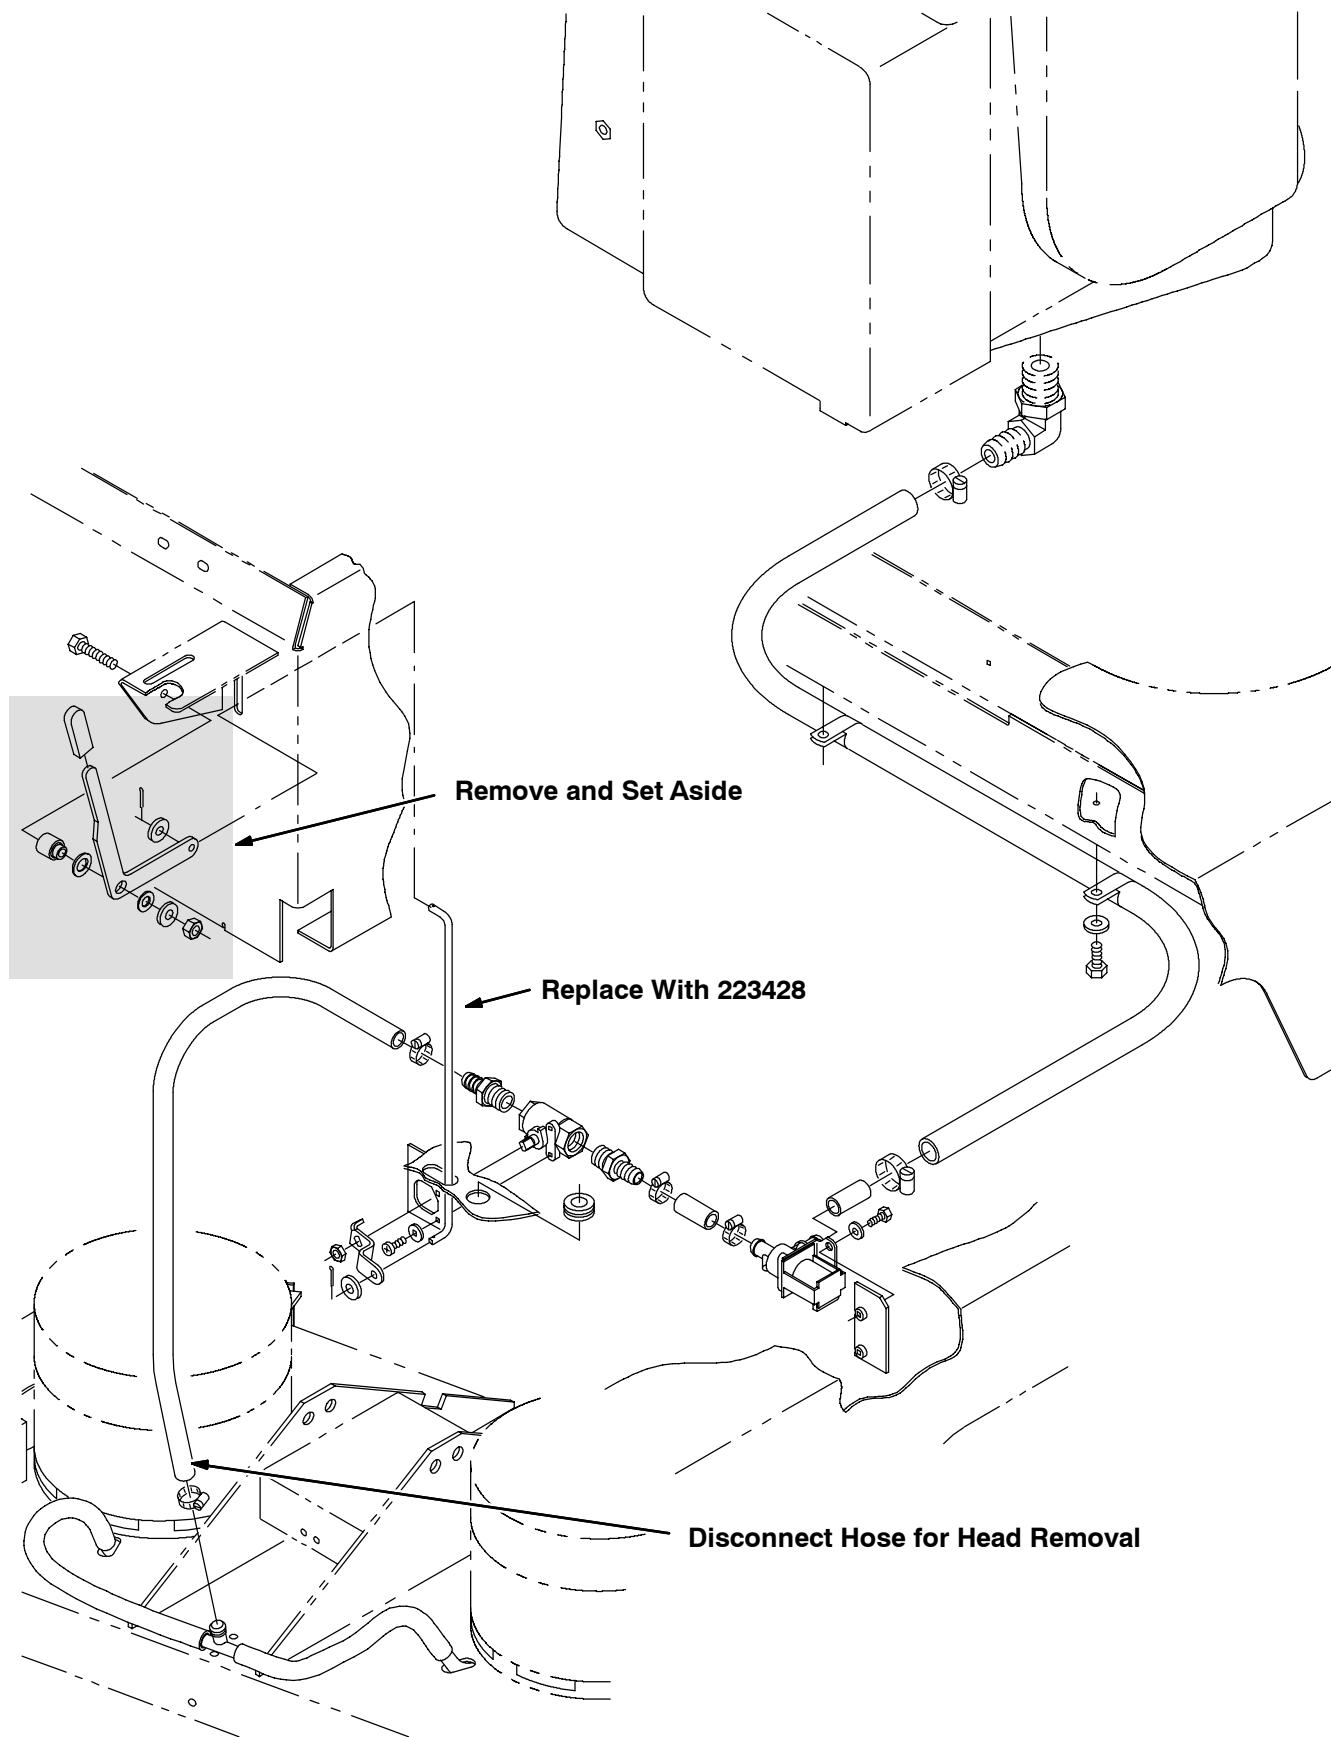
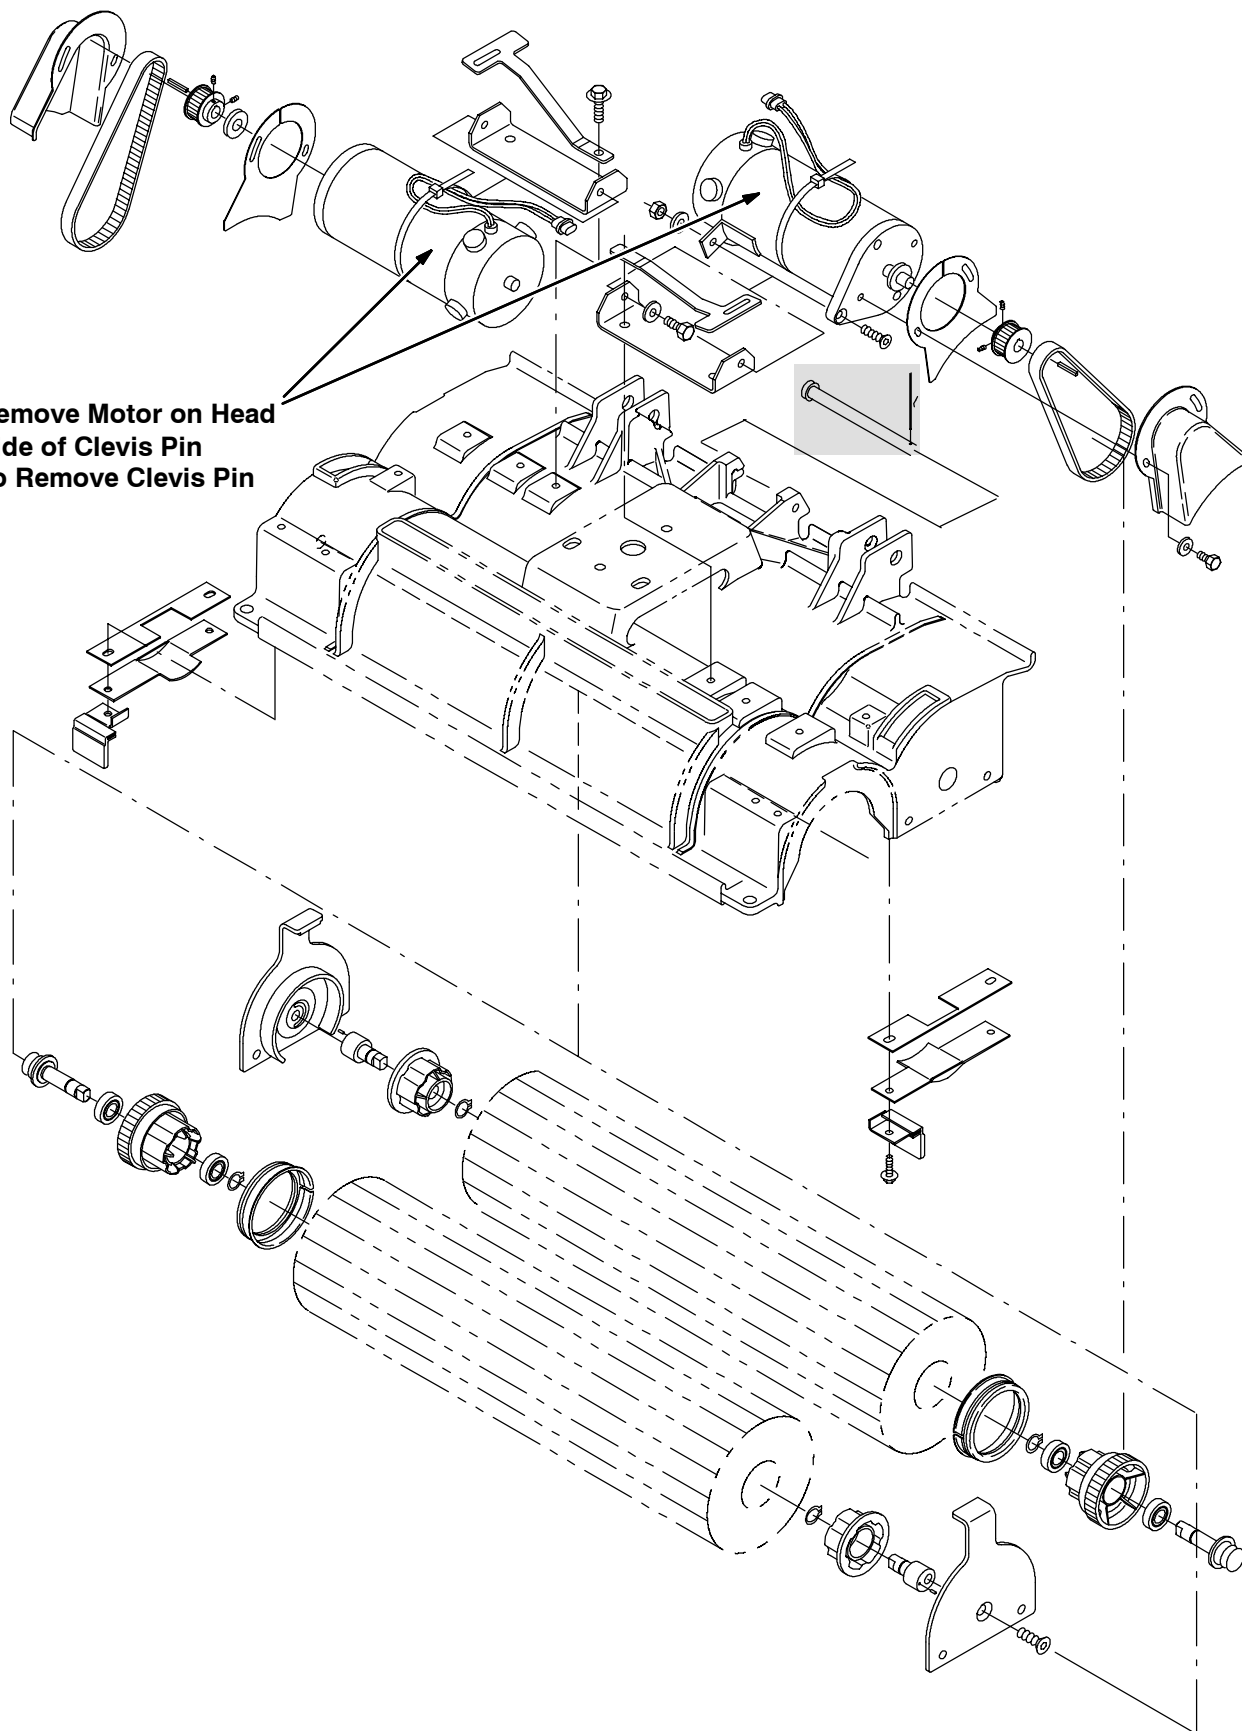
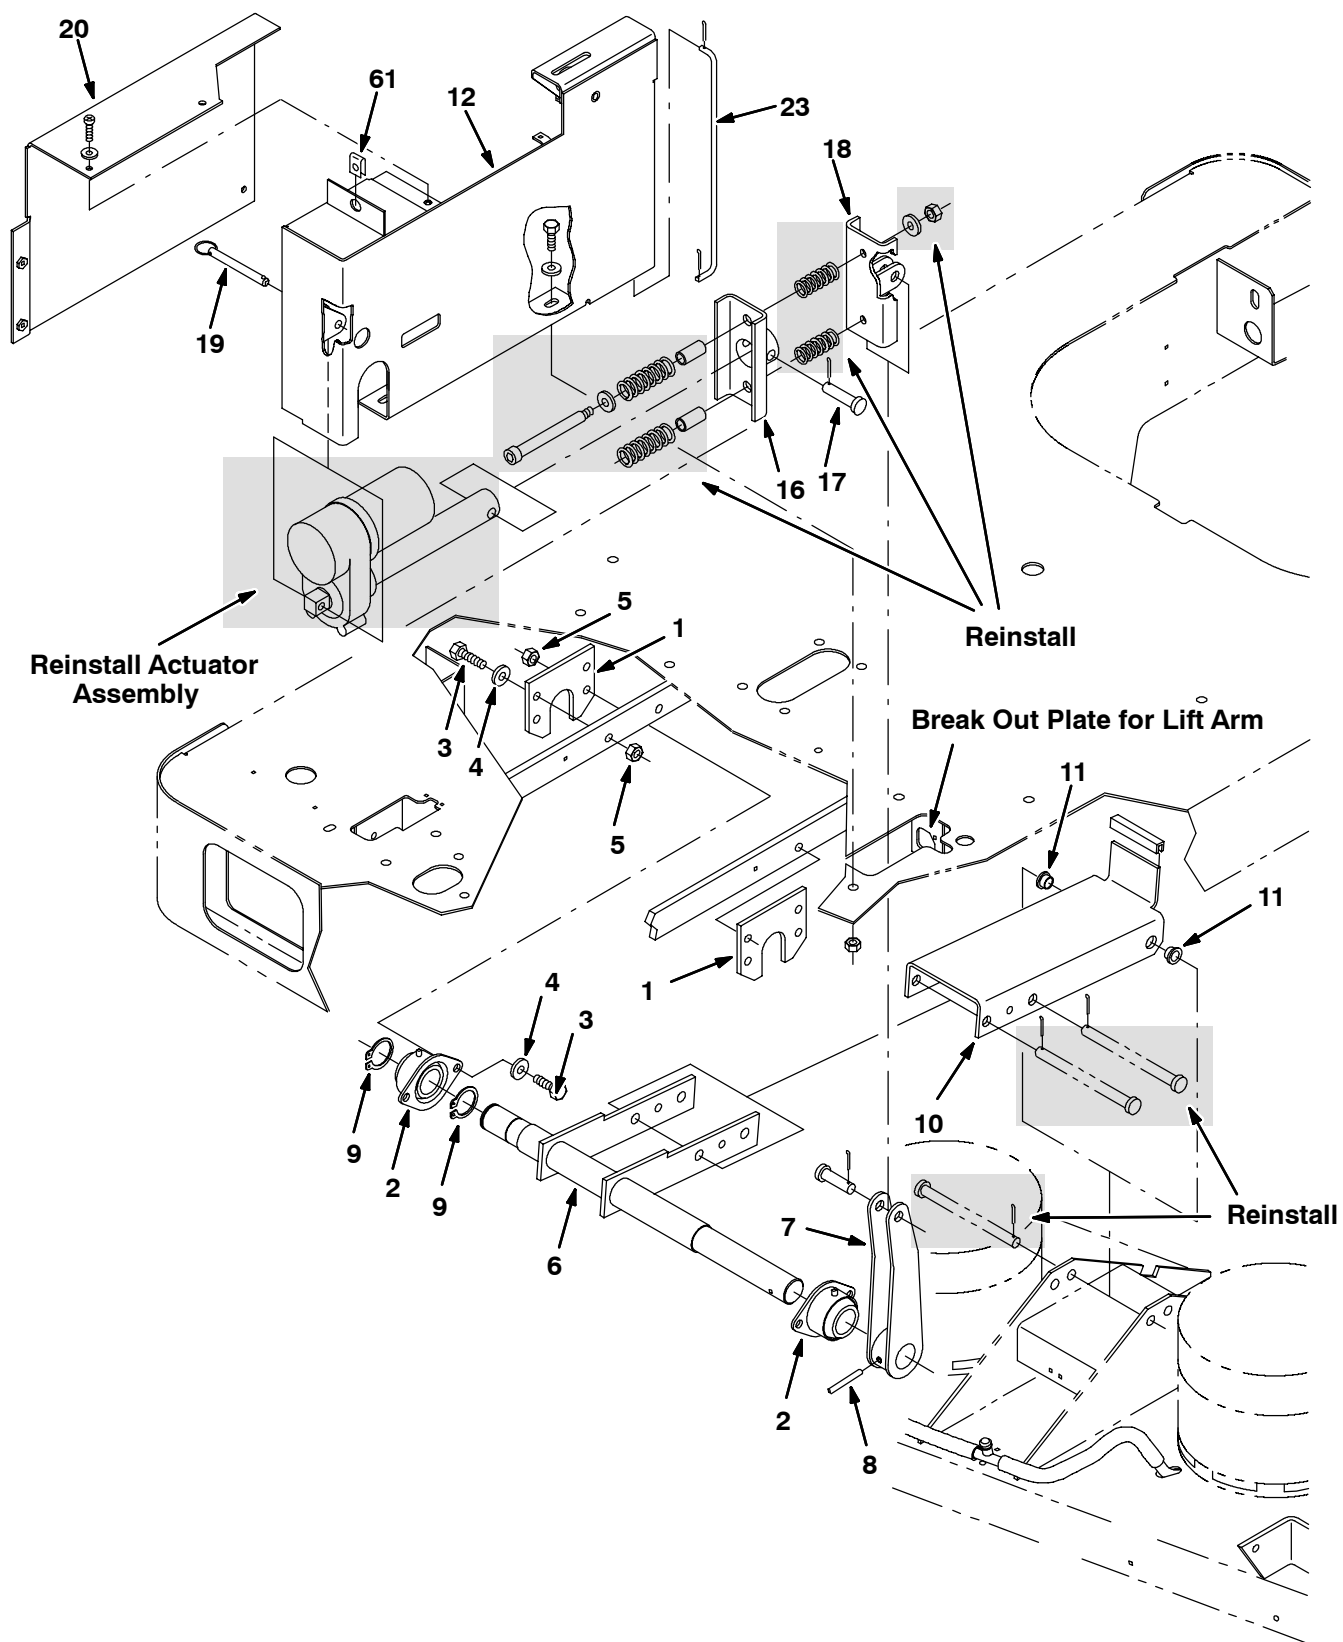

FIG. 1-Solution Control Group / Handle and Rod Removal
FIG. 5-Cylindrical Brush System, Motor Removal
FIG. 7-Rollout Battery Scrub Head Lift Group
INSTALLATION: (Refer to Fig. 1 through Fig. 10) Scrub Head Lift Group Removal, Disk Brush System:
7. Disconnect the water line from the plastic tee fitting. Refer to Fig. 1.
15. Insert two flange bearings (11) in the rear holes of the new weldment (10). Replace the old channel weldment with the new weldment (10). Replace the clevis pin. Refer to Fig. 7.
10. Remove the drive motor that the rear clevis pin head is facing. Refer to Fig. 5.
11. Remove the last clevis pin and channel weldment from the scrub head. Refer to Fig. 5 and Fig. 7.
12. Replace the old channel weldment with the new channel weldment and secure with the clevis pin (10). Refer to Fig. 7.
6. Disconnect the water valve rod from the water valve control lever. Set the washer and hairpin cotter key aside. Refer to Fig. 1.
7. Disconnect the opposite end of the water valve rod from the water valve arm w/stop. Set the washer and hairpin cotter key aside. Refer to Fig. 1.
8. Remove and set aside the water valve control lever and mounting hardware. Refer to Fig. 1.
1. Mount the tool lift mounting panel (12) to the machine using mounting hardware. Refer to Fig. 7.
2. Assemble the actuator group with shield bolt, springs, steel tubes, channel weldment (16), actuator, clevis pin (17) and the channel weldment spring mtg (18). Refer to Fig. 7.
3. Pin the actuator into the tool lift panel (12) with the hitch pin (19). Refer to Fig. 7.
4. Mount the two bearing mounting plates (1) to the frame of the machine with hex screws (3), washers (4) and nuts (5). Refer to Fig. 7.
5. Press one flanged bearing (2) with two retaining rings (9) onto the right side of the tool lift shaft weldment (6). Refer to Fig. 7.
6. Press the other flanged bearing (2) onto the opposite side of the tool lift shaft weldment (6). Slide the tool lift arm weldment (7) onto the shaft after the flanged bearing (2). Refer to Fig. 7.
7. Firmly press the roll pin (8) through the lift arm (7) and shaft (6) weldments to hold the flanged bearing (2) and lift arm (7) into place. Refer to Fig. 7.
9. Reconnect the brush motors and the water line from the machine back to the tee-fitting. Refer to Fig. 1.
10. Guide the shaft weldment (6) under the machine, align the bearings (2) with mounting plates (1) and the arm weldment (7) in the new opening in the floor frame. Refer to Fig. 7.
11. Raise the flanged bearings (2) on the shaft weldment (6) up to the bearing mounting plates (1) and guide the arm weldment (7) up to channel weldment (18). Refer to Fig. 7.
12. Mount the flanged bearings (2) to the mounting plates (1) with the hex screws, washers, and hex nuts. Refer to Fig. 7.
13. Connect the arm weldment (7) to the spring mounting channel weldment (18) with the clevis pin and hairpin cotter key. Refer to Fig. 7.
14. Mount the water control lever to the new tool lift panel (12) using set aside hardware.
15. Connect one end of the new water control valve rod (23) to the valve stop arm with the set aside washer and hairpin cotter key. Refer to Fig. 1.
16. Connect the other end of the water control valve rod (23) to the water control lever. Refer to Fig. 1.
17. Mount the shaft weldment (6) to the tool lift channel (10) with the two set aside clevis pins and cotter keys. Refer to Fig. 7.
19. Mount the tool lift angle cover (20) with mounting hardware. Refer to Fig. 7.